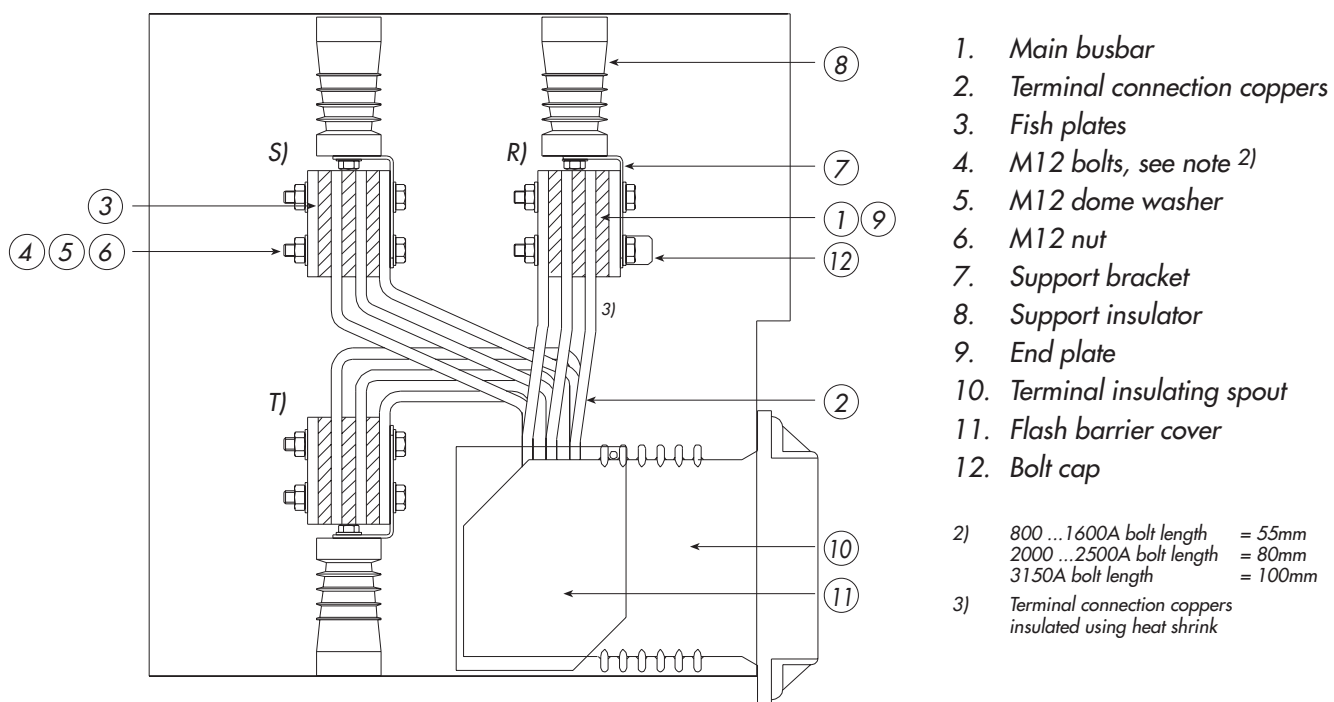

Figure 2.8 Legend for busbar compartment
- couple the busbars to the tee off connections as shown in figures 2.8 through to figure 2.14